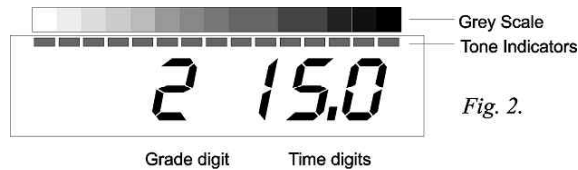

Fig. 2.
- 1 The display has two sections, a numeric display of paper grade and exposure time, and the bar-graph section alongside the grey scale. Refer to fig.2.